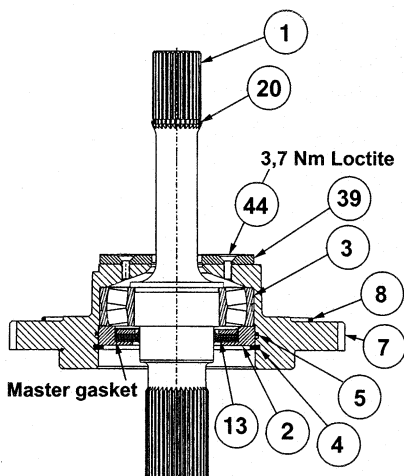
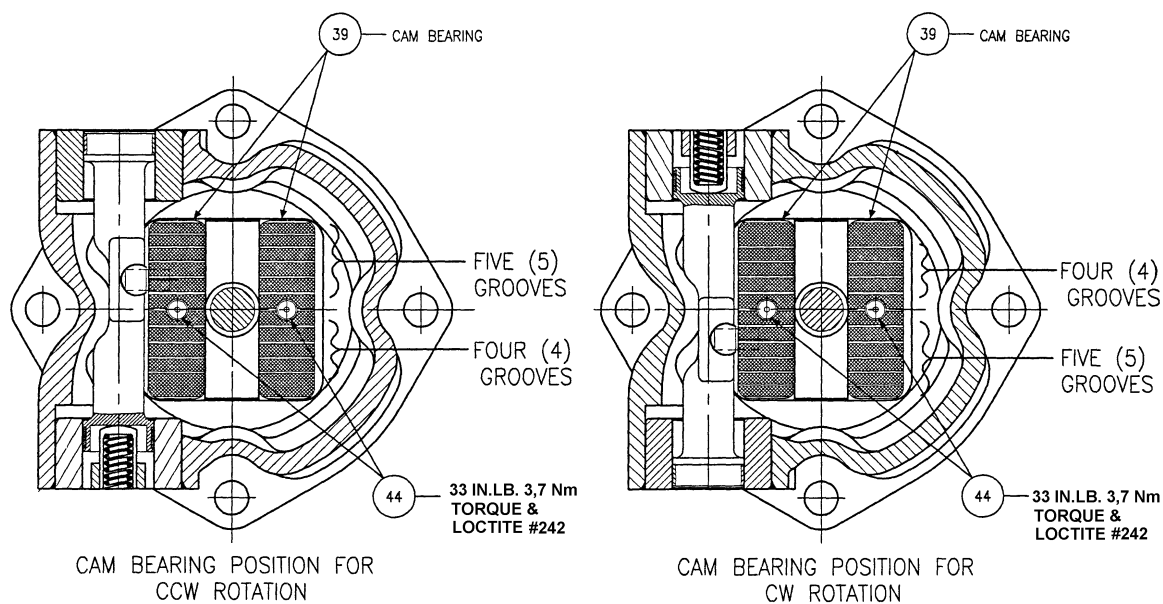

FIGURE 10
FIGURE 11
See figure 10. Assemble two cam bearings (39) to rocker cradle (6) with two screws (44). Apply Loctite to screws and torque to 33 in.-lb, 3.8 Nm. The cam bearings have lubricating grooves where the rocker cam makes contact. The cam bearings must be oriented on the rocker cradle to correspond to the side-of-center that the rocker cam will be stroking for CW or CCW shaft rotation. See Figure 11.
- The control piston must be reversed so that it is oriented correctly with the control caps. See figure 11.
- The rocker cam bearings must be removed from the rocker cradle, rotated 180° from the original position and reinstalled on the rocker cradle. See Figure 11.